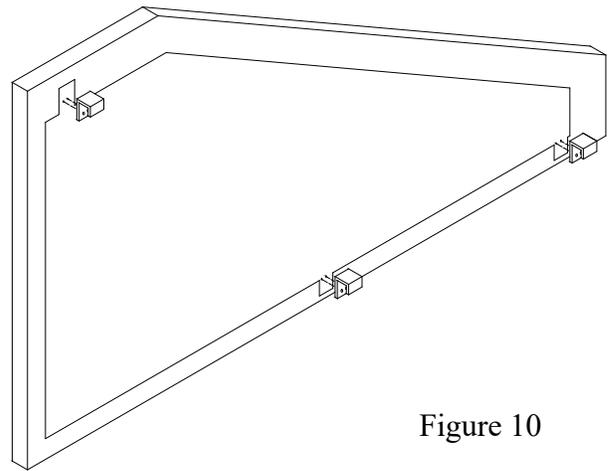

Figure 10
21. Install *Padding Brackets* (Q) on the *Front* and *Side Pads* (N) with 1/4"-20 *Flat Head Screws* (O). Then install *Front, Side, and Arm Pads* (N). See Figure 10.